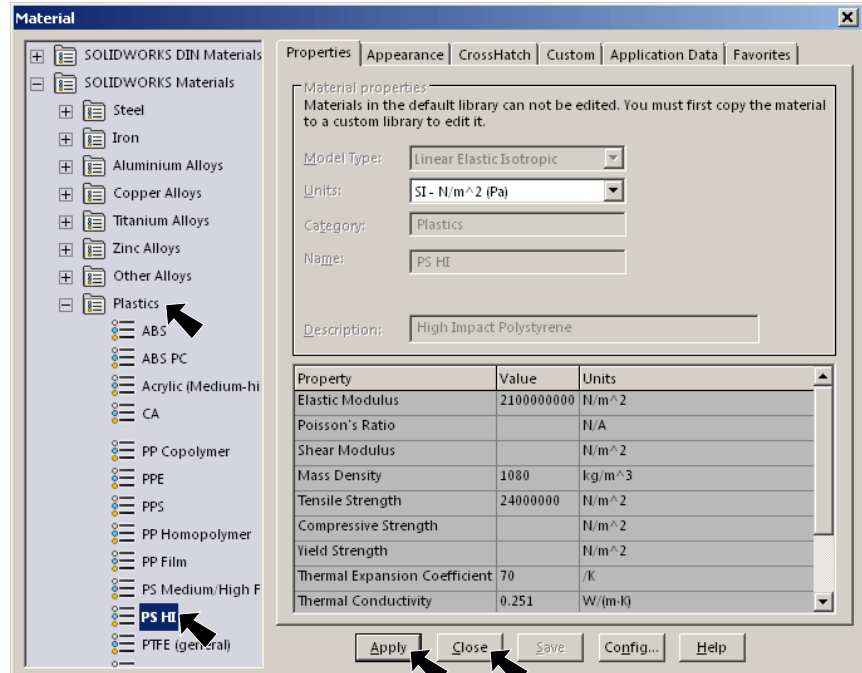

Fig. 14
Step 3. Expand **Plastics** in the material tree and select **PS HI**, Fig. 14. Click **Apply** and **Close**.